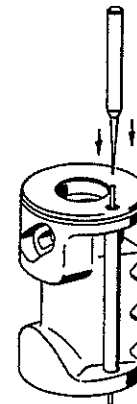

Fig.12
7.3.1 Versions with caulked valve insert (109) - steering limiter valve
Position piston (101) upright so that the caulking on valve insert (109) points upwards (Fig.12).